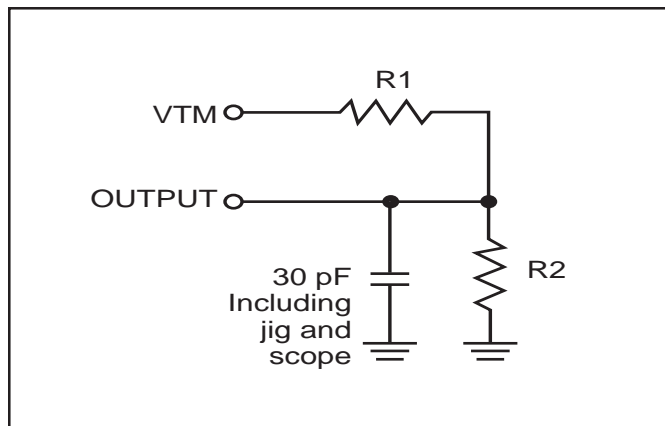

Figure 1
1. Test conditions assume signal transition times of 5 ns or less, timing reference levels of 0.9V/1.5V, input pulse levels of 0.4 to V_{DD}-0.2V/0.4V to V_{DD}-0.3V and output loading specified in Figure 1.
1. Test conditions assume signal transition times of 5 ns or less, timing reference levels of 0.9V/1.5V, input pulse levels of 0.4 to $V_{DD}-0.2V/0.4V$ to $V_{DD}-0.3V$ and output loading specified in Figure 1.